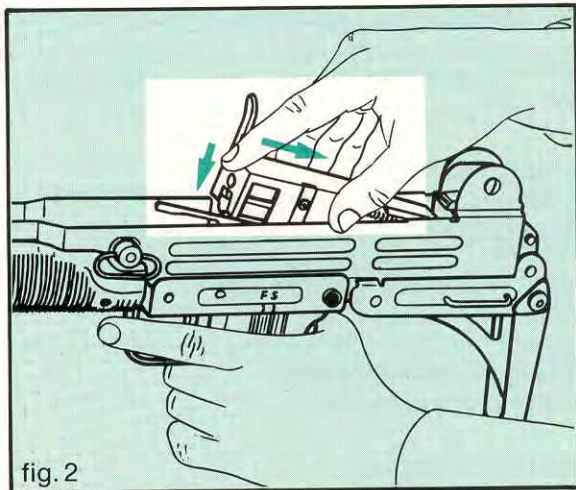

fig. 2
1. With its rear facing down, insert the bolt housing assembly in the carbine receiver (fig. 2).